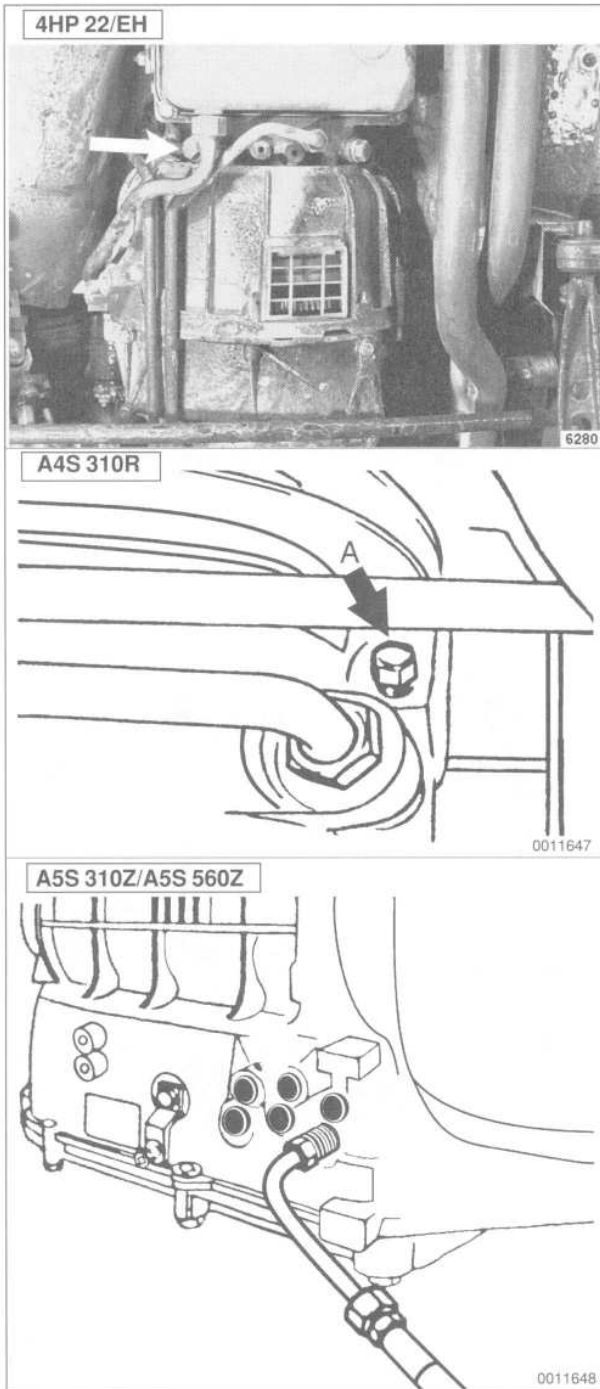

Fig. 2. Main pressure tap on transmissions.
1. Remove main pressure tap plug and connect pressure gauge to transmission tap. See Fig. 2.